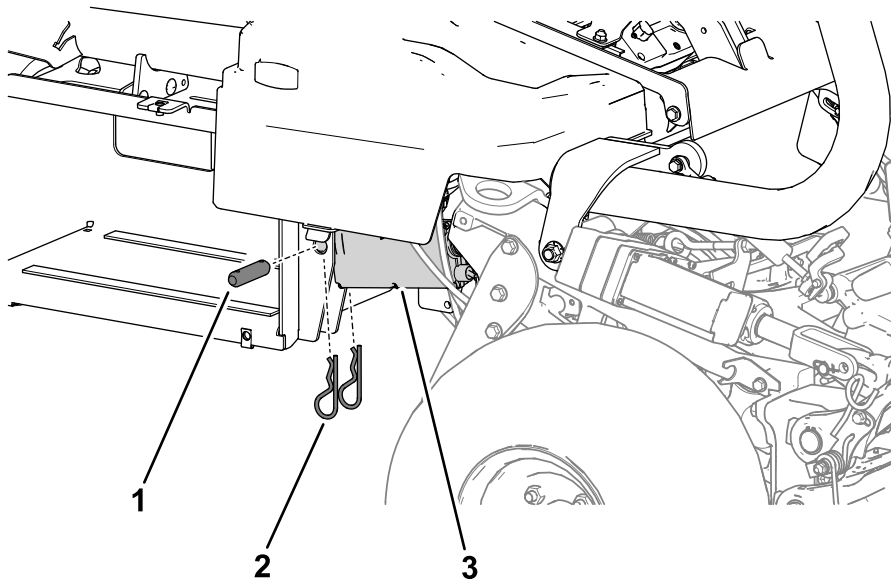

Figure 3
2. Remove the pins that secure the brake actuator to the side battery tray on the right side of the machine (Figure 3).